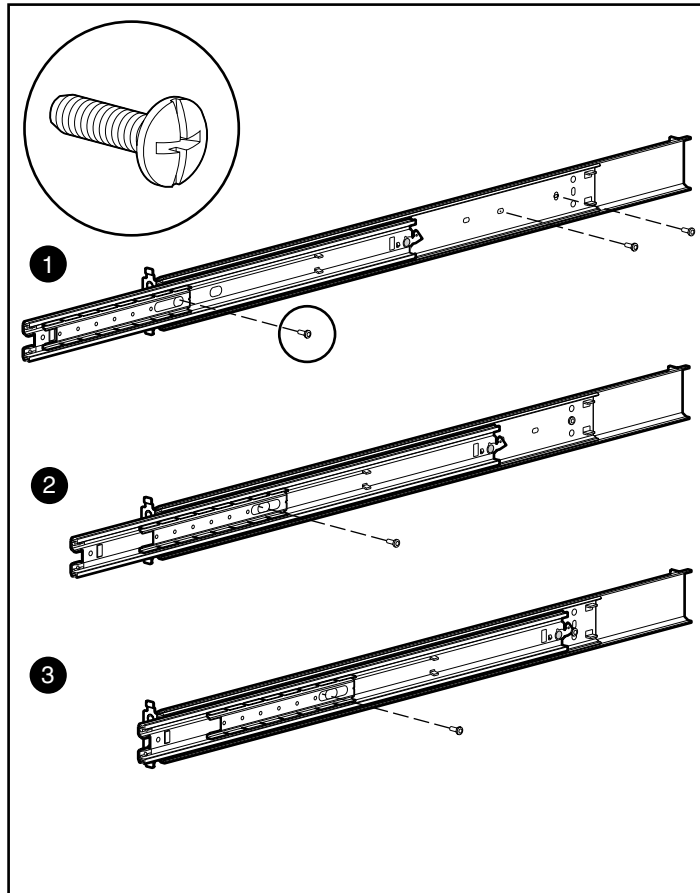

Figure 4-7. Attaching the bracket rail to the rack mounting bracket
7. Extend the inner slide from the front of the bracket rail. With this piece extended, you will see three screw holes aligned in the rack mounting bracket and the bracket rail ❶. These are the two exposed screw holes near the back end of the bracket rail and the front screw hole that is accessible through a slot in the inner slide.
8. Fasten the bracket rail to the rack mounting bracket with three 8-32 x 1/4-inch slotted screws. (Do not use nuts or washers with the screws.) See step ❶ of the Figure 4-7.
9. Adjust the inner slide to access two additional screw holes (one at a time) through the slotted opening in the inner slide. Use two more 8-32 x 1/4-inch slotted screws to fasten the bracket rail to the rack mounting bracket. See steps ❷ and ❸ of the following figure.